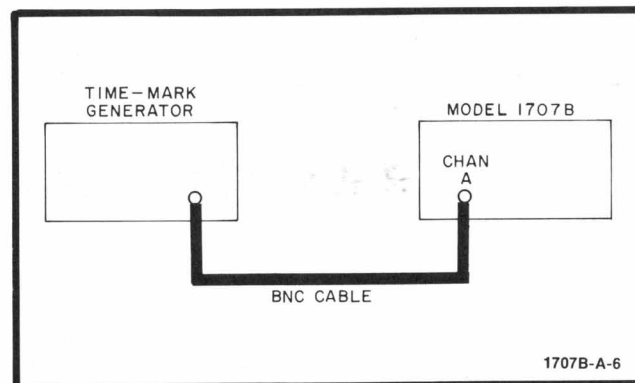

Figure 5-10. Delay Time Linearity Test Setup
- Connect instruments as shown in figure 5-10.